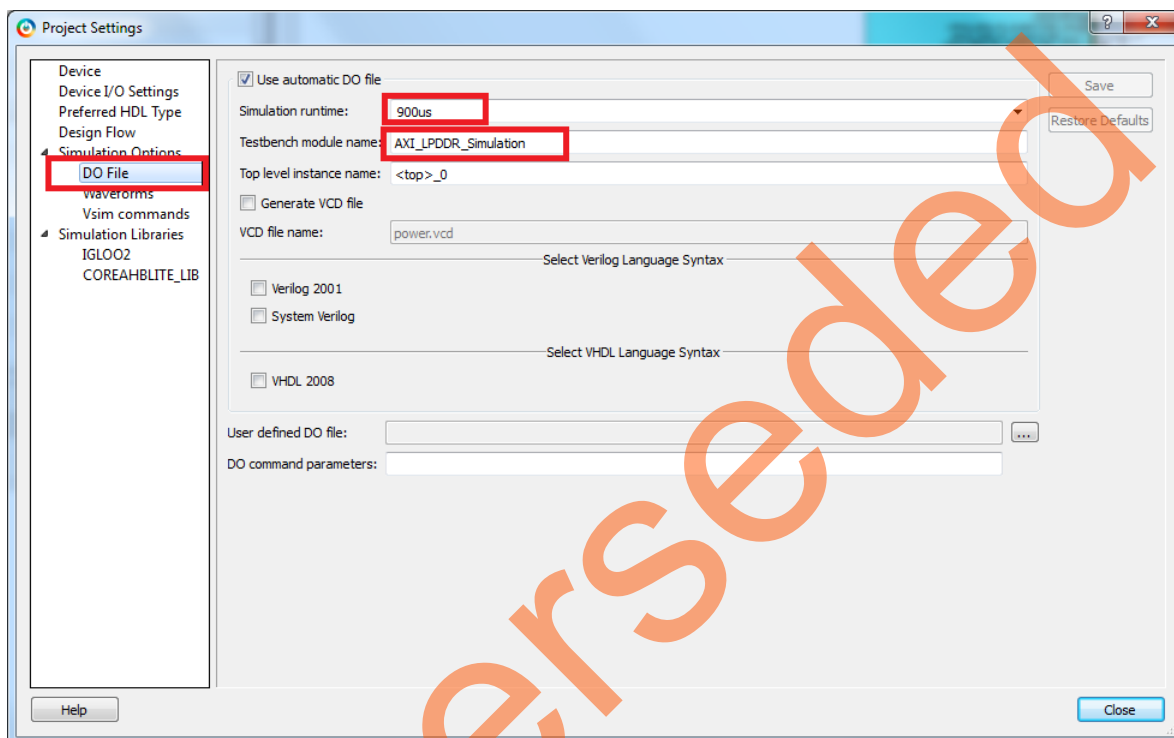

Figure 7 • DO File Settings
4. Ensure that the **DO File** tab has the configuration, as shown in Figure 7
3. Simulation run time is 900µs, as shown in Figure 7 on page 12.